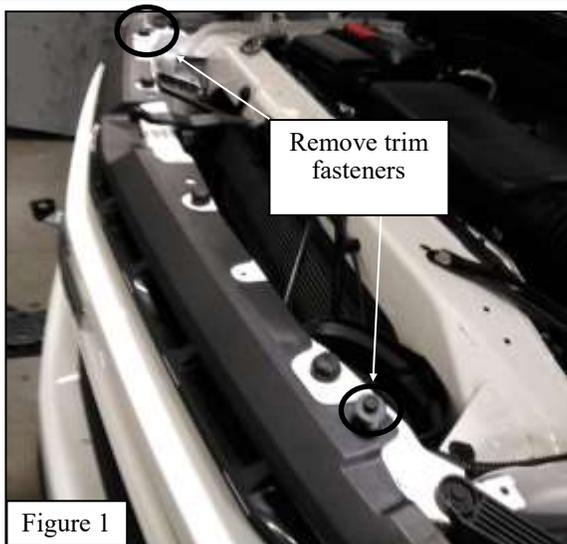

Figure 1
3. Remove the fasteners holding the grille in place. Also, detatch the clips from the wings on the grille. See **Figures 1 & 2** for reference.